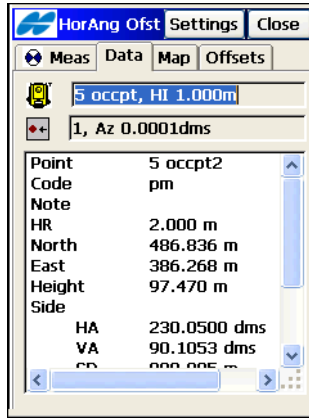

Figure 11-11. Horizontal Angle Offset – Data Tab
- The *Data* tab (Figure 11-11) on the **Horizontal Angle Offset** screen contains the data collected during the offset measurement.